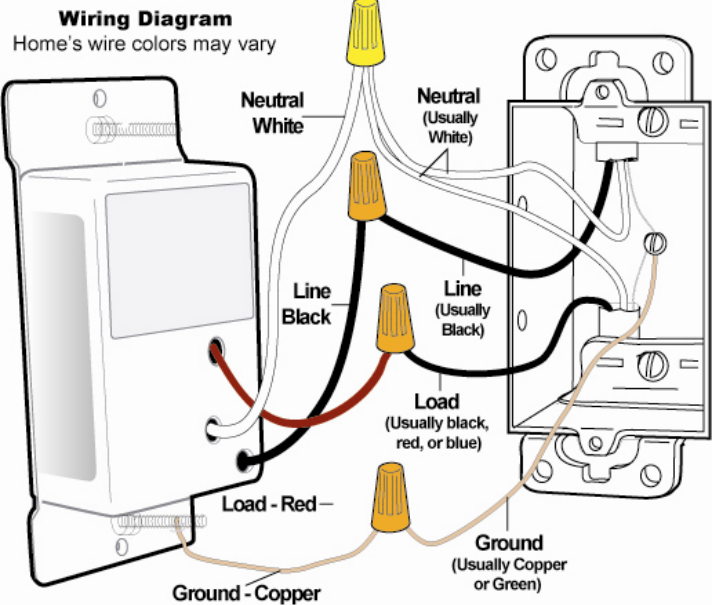

Figure 1
- 4) See Figure 1 to identify and connect the LINE, LOAD, NEUTRAL and GROUND wires to the INSTEON device. If the colors of the wires do not match the diagram, be sure you have identified the wires correctly before connecting them.